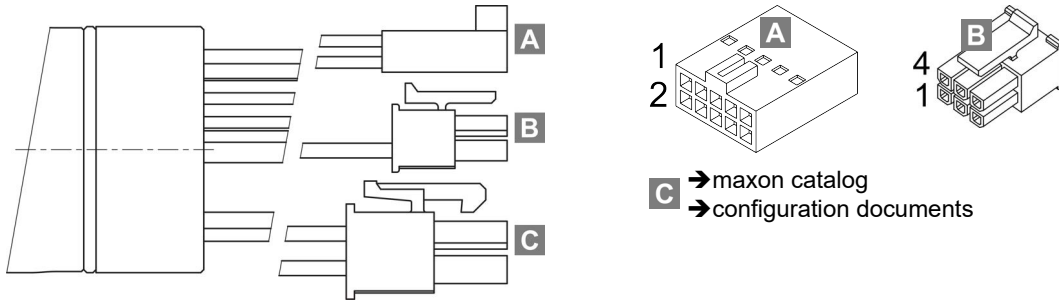

Figure 14 ENX 13 | 16 | 19 | 22 EASY INT COMM – Cable Plugs
- Encoder with plug / Hall sensors with plug / Motor with plug (→Figure 14)